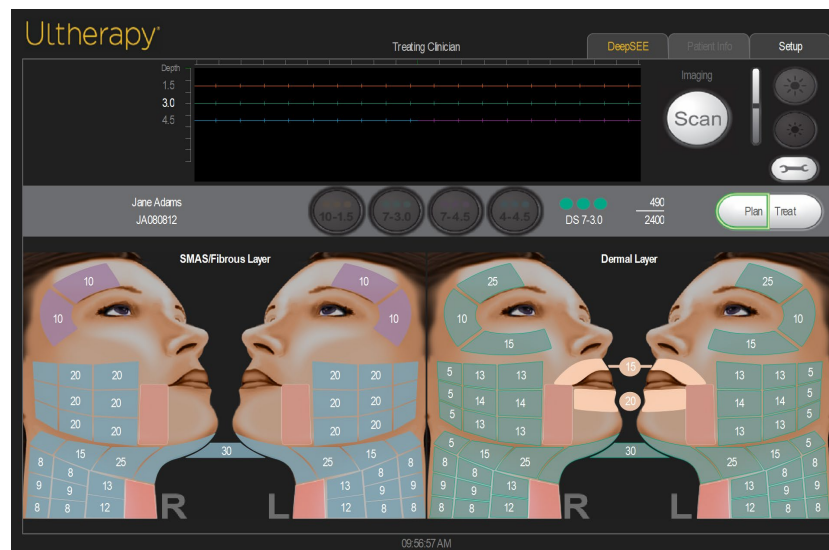

Figure 7.11 Treatment maps of the SMAS/Fibrous Layer and Dermal Layer (Transducer DS 7-3.0 attached)
- a. SMAS/Fibrous Layer (Treatment maps on the left of the screen, as shown in Figure 7.11) will allow the user to plan and treat at a 3.0 mm and/or 4.5 mm depth (Transducer options: DS 7-3.0, DS 7-3.0N, DS 4-4.5, DS 7-4.5)
- b. Dermal Layer (Treatment maps on the right of the screen, as shown in Figure 7.11) will allow user to plan and treat at 1.5 mm and/or 3.0 mm depth (Transducer options: DS 10-1.5, DS 10-1.5N, DS 7-3.0, DS 7-3.0N)